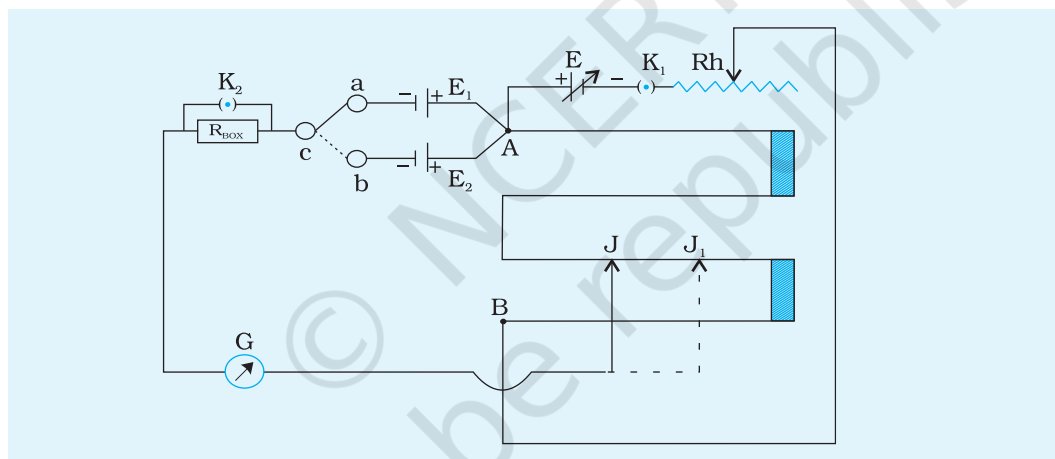

Fig. E 4.2 Circuit to compare emf of two primary cells
With the help of a voltmeter we can measure only the potential difference between the two terminals of a cell, but using a potentiometer we can determine the value of emf of a given cell. The two primary cells whose emfs are to be compared, are so connected in the circuit that their positive terminals are joined together to the end A of the potentiometer wire AB and their negative terminals are joined to a galvanometer through a two-way key a, b, c. The other terminal of the galvanometer is connected to a jockey J. A resistance box, R_{BOX} , shunted with a key across its terminals, is also connected in the circuit between the two way key and the galvanometer G as shown in Fig. E 4.2.
1. Make the circuit connections according to Fig. E 4.2. Connect positive terminals of the battery E and the two cells E_1 and E_2 to zero at end A of the potentiometer wire.